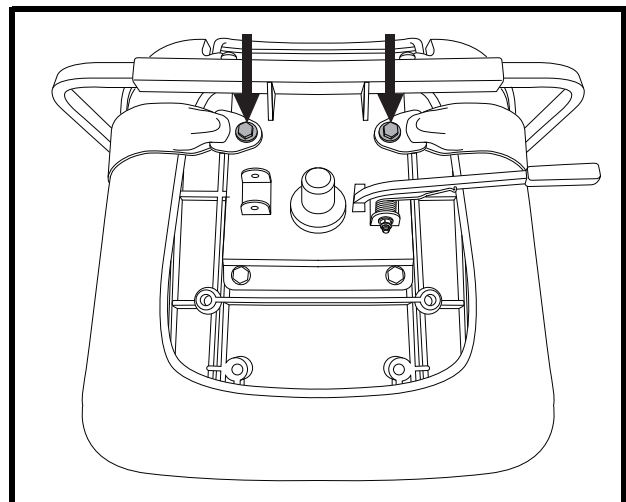

Figure 21. Positioning Belt Bolts
Your scooter seat may be equipped with an auto-type positioning belt that can be adjusted for operator comfort. See **figure 21**. The positioning belt is designed to help support the operator so that he or she does not slide down or forward in the seat. The positioning belt is not designed for use as a restraining device.
2. Place the seat upside down so that you can see the bottom of the seat base. See **figure 21**.